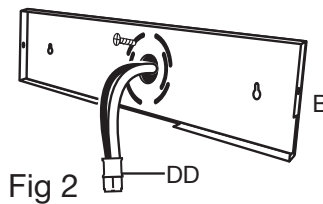
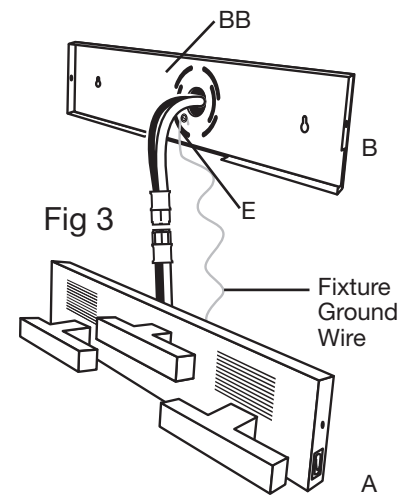

Fig 2
Fig 3
4. Bring Capstone Quick Connector (DD) through center hole in Mounting Plate (B) (Fig 2).
5. Align and anchor Mounting Plate (B) to Electrical Box (G) using Electrical Box Mounting Screws (BB). Make certain the Mounting Plate bottom is facing downward.
6. Connect Capstone Quick Connector (DD) pre-wired to Light Fixture (A) to Capstone Quick Connector (DD) wired to Electrical Box (G) and attach Light Fixture Ground Wire to Ground Screw (E) (Fig 3).
7. Place Rocker Switch (F) in ON position to activate Night Light feature.
8. Align Light Fixture (A) in Mounting Plate (B) and secure with Mounting Plate Screws (AA).